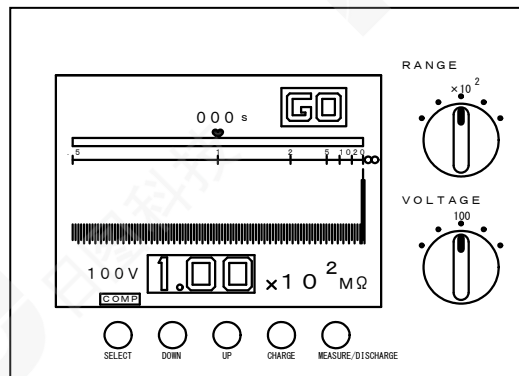

Fig. 6.6.2
- 8) Using the UP and/or DOWN switches, set the judgment level to  $1.00 \times 10^2\text{ M}\Omega$ . (Fig. 6.6.2)